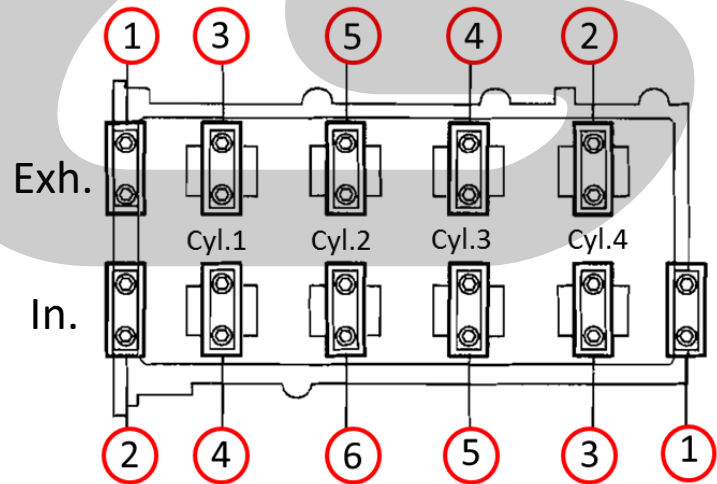

Figure 3v
- v) **Remove the camshaft bearing caps in order according to Figure 3v** (1,1,2,2,3,3,4,4,5,5,6,6). Loosen each cap in small increments going through the sequence 2 or 3 times per camshaft.